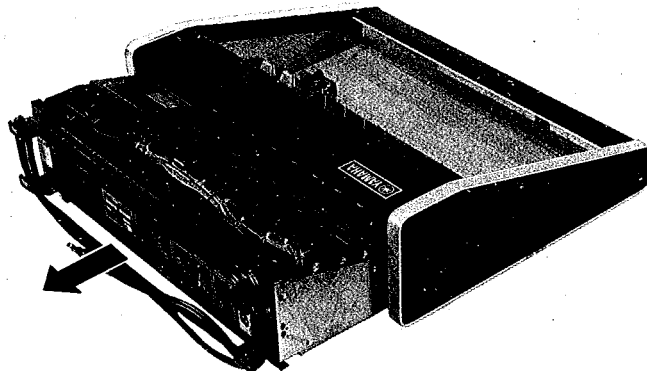

Figure 3
- (3) Pull the amp unit forward to separate it from the wood case as shown in Figure 3.